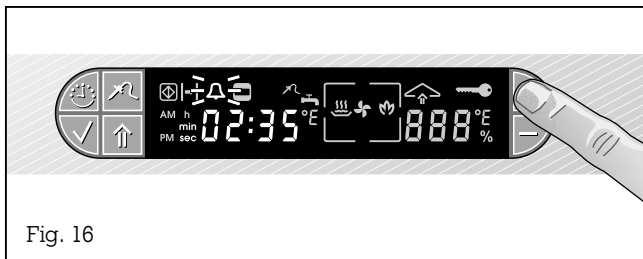

Fig. 16
- Press the + key. The short time symbol Δ flashes (Fig. 16).